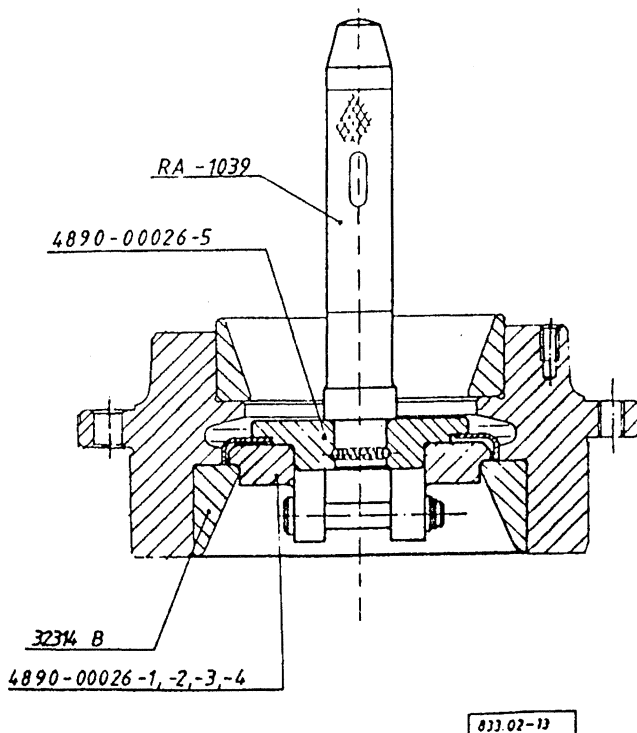

Fig. 2.: DRIVING OUT THE CUP OF THE INNER TAPER ROLLER BEARING
When pressing out the drive pinion (16) the inner race of the inner taper roller bearing cone remains on the pinion. Pull off the inner taper roller bearing cone (Fig. 2. of Section 290)
Properly backing the bearing cage drive the cup of the taper roller bearing out of the bearing cage by means of the tools shown (see Fig. 2.)